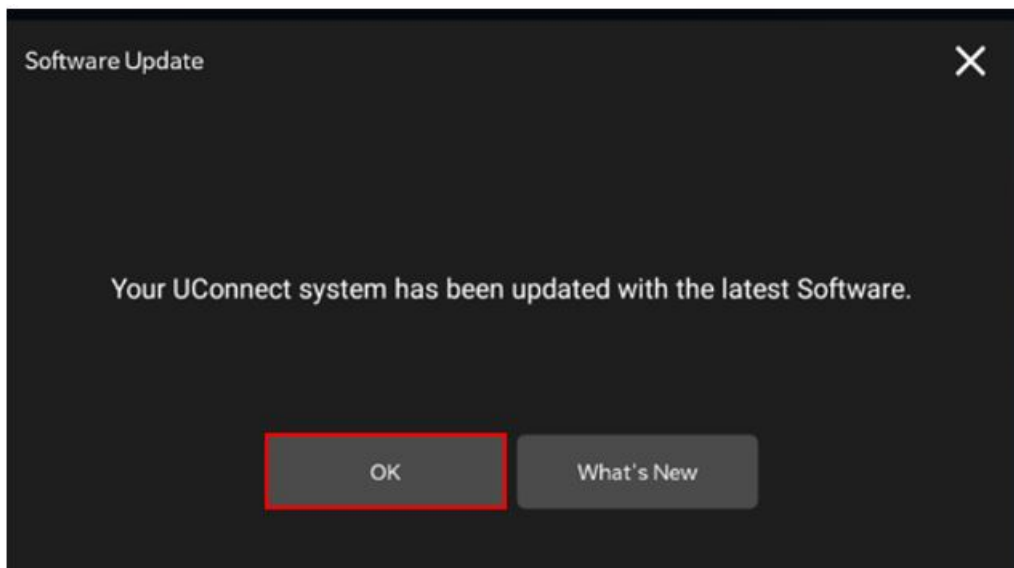

Fig. 7
16. Press “OK” to continue (Fig. 7) .